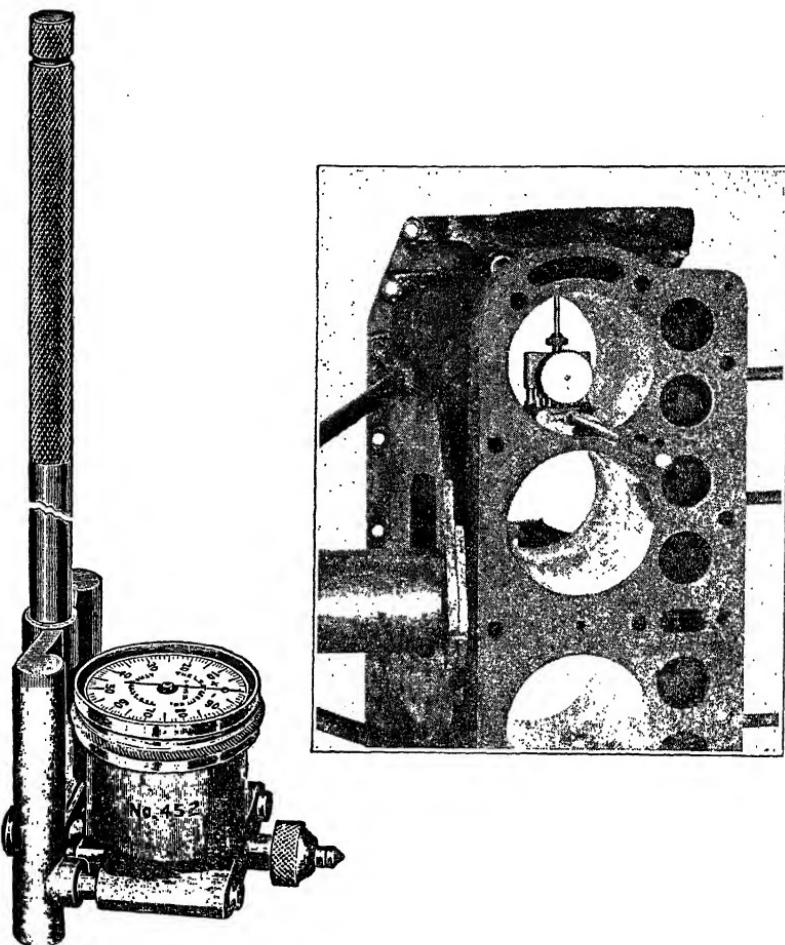

Fig. 20. Using a Cylinder Gauge to Test Cylinder Condition—Starrett Gauge at Left
*Testing the Condition of a Cylinder with the Cylinder Gauge.* Insert the cylinder gauge as shown, Fig. 20, and set the dial to read zero. Now move the gauge downward into the cylinder. Any variation means that there is a taper and it is likely that the cylinder will be smaller at the bottom. The number of graduations on the gauge is the amount of variation and it may be read as .003— or .003+ as the case may be.